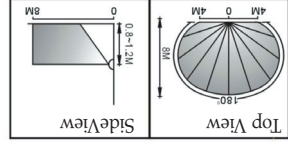

Fig. 1
The ZV810 can be installed at various heights from 0.8M to 1.2M to detect a zone up to 8M in range over a 180° angle. (See Fig. 1)
- For best results mount the sensor switch to range over a 180° angle. (See Fig. 1)